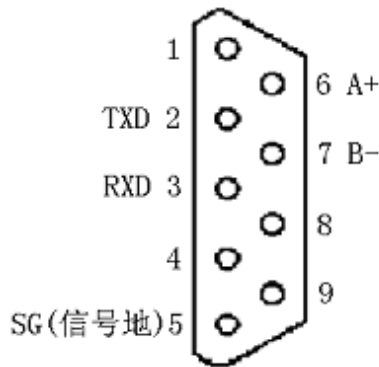

Figure4. 9-pin Standard D-Sub socket
4.5 Serial communication connection(Figure 4)
Please connect pin 2(TXD) , pin 3(RXD) and pin 5(SG) showed in figure 4 to PC's standard RS232 serial port's corresponding pin 2(RXD),pin 3(TXD) and pin 5(Signal COM);
Please connect pin 6(A+) , pin 7(B-) showed in figure 4 to the Master(PC)'s standard RS485 serial port's corresponding pin(A+), pin(B-). In fact, this is the Half-Duplex RS485 Communication Mode, you should set every 8C Accumulator to the different address, the Master(PC) can discern every 8C Accumulator by the different address, in this mode you can use one Master(PC) communicate with 16 8C Accumulators (if you want know more about the communication protocol, please read the Appendix One).